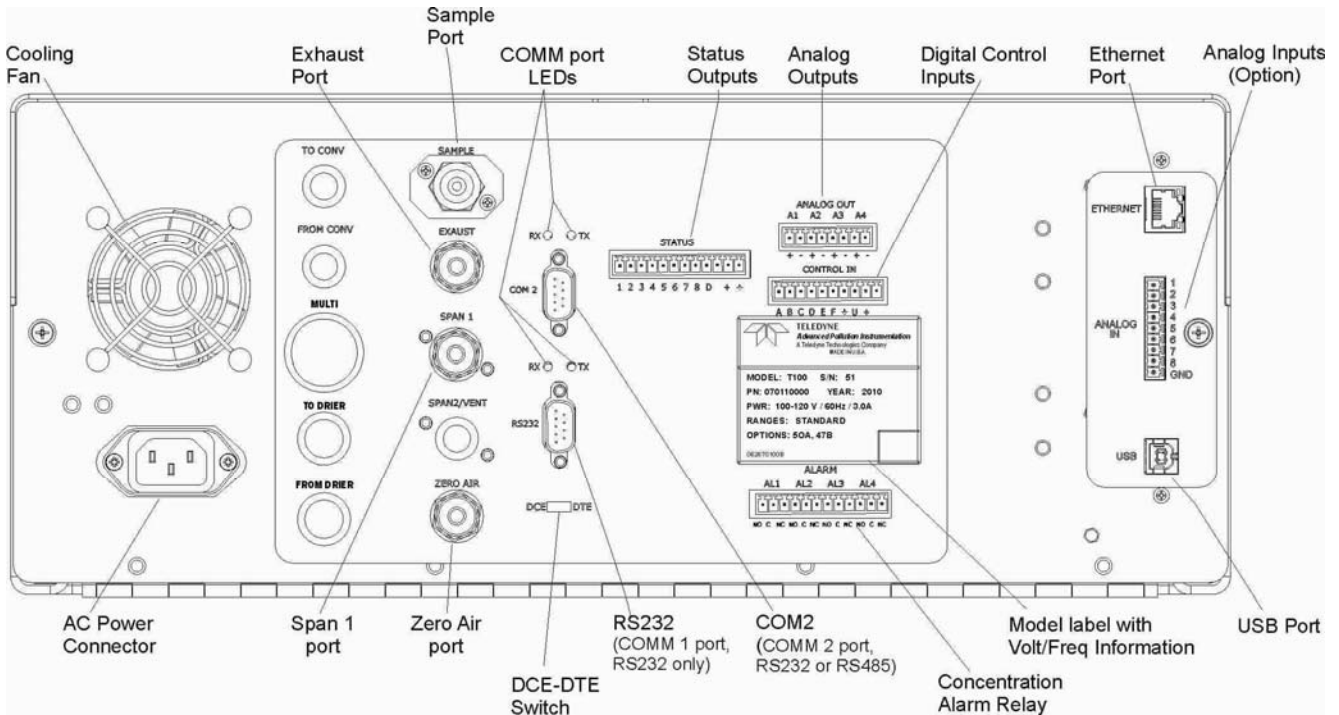

Figure 6-1: Rear Panel Layout with Z/S Valve Options (OPT 50A)
**SPAN GAS** Attach a gas line from the source of calibration gas (e.g. a Teledyne API's M700E Dynamic Dilution Calibrator) to the **SPAN1** inlet (see Figure 6-1). Use PTFE tubing; minimum O.D ¼”.